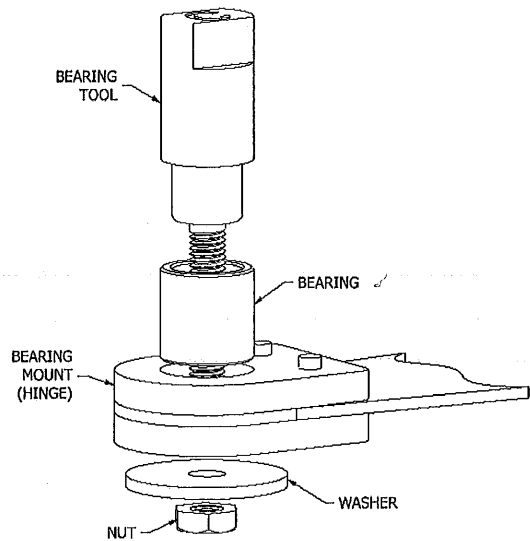

FIGURE 2 - BEARING INSTALLATION
1. SEAT EDGE OF BEARING INTO MOUNTING HOLE AND ASSEMBLE TOOLS AROUND BEARING, AS SHOWN IN FIGURE 2.